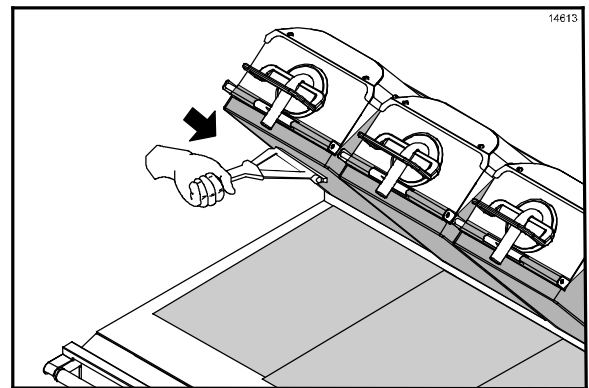

Figure 29
2. Squeegee the upper release sheet from top to bottom. (See Figure 29.)